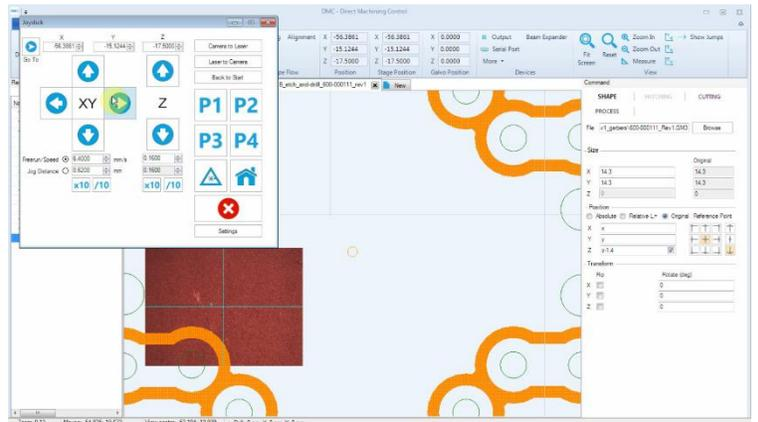

Figure 2. Camera is used for alignment on the PCB.
2. Galvo scanner and positioning stages are combined using Stitching tool in DMC. No need to use separate software for galvo scanners and positioning stages. All motions are divided between galvo scanners and positioning stages automatically (Figure 2).
Figure 2. Grey stitching lines where object is split for galvo and stages machining are visible. Different object colors represent different laser and speed parameters.
hatched and used for etching and cutting, while NC drill file is used for layer by layer drilling. Different laser and speed parameters are set for different parts of the recipe to perform them efficiently. I.e. PCB is drilled with two sets of parameters, one for the copper top and bottom and one for polymer middle layer (Figure 2).